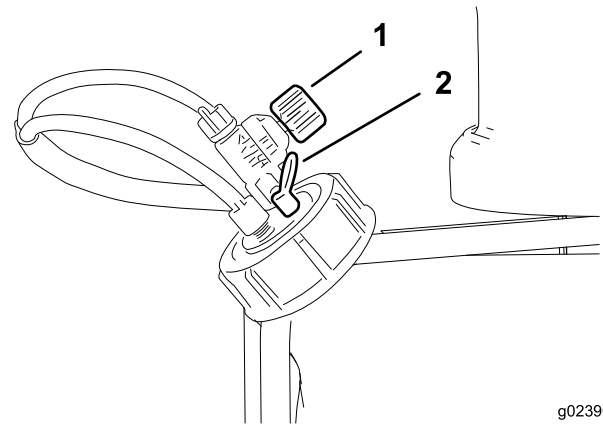

Figure 7
**Foam regulator adjustment valve**—controls the consistency of the foam solution. Adjusting the valve controls the amount of soap solution delivered to the foam nozzles. Increasing the flow results in larger, more frequent foam drops; decreasing the flow results in smaller, less frequent foam drops (Figure 7).
**Pressure relief valve**—pull the red tab on the tank cap outward to relieve pressure in the tank (Figure 7).